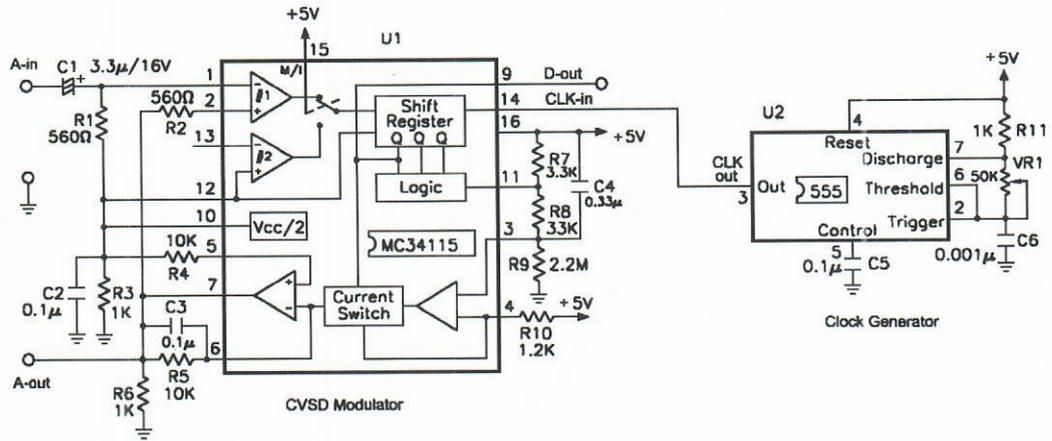

Figure 16-5 CVSD modulator
Figures 16-5 and 16-6 show the practical CVSD modulator and demodulator, respectively.
1. Complete the CVSD modulator circuit of Figure 16-5 on KL-94004 module.